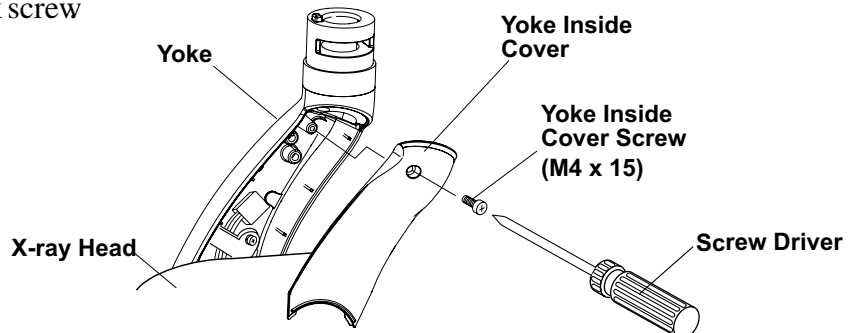

Fig.3-15 Removing Yoke Inside Cover
2. Open the yoke inside cover of x-ray head by removing (M4 x 15mm) countersunk screw (Fig.3-15)